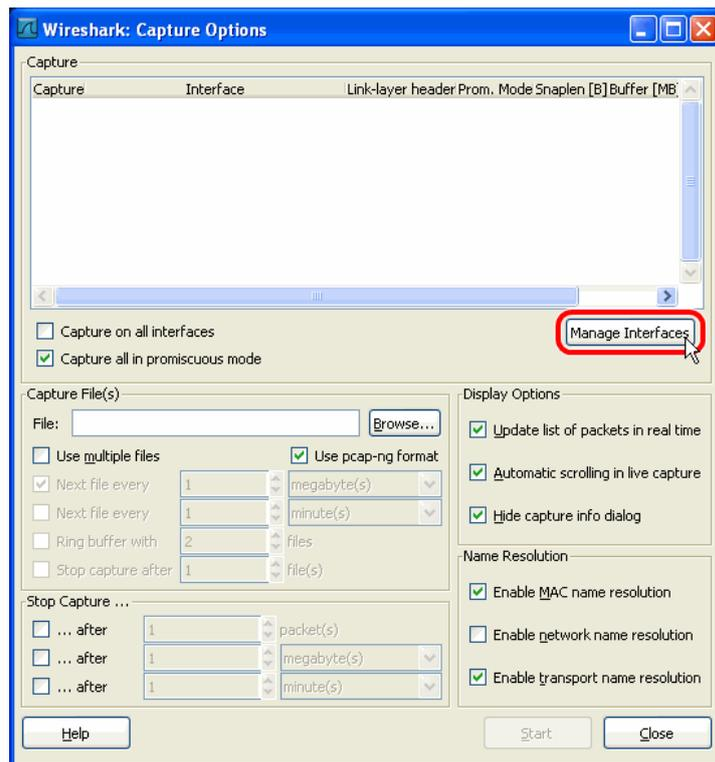

Figure 266: Wireshark Capture Options Dialog.
1. Open Wireshark and choose the menu **Capture → Options...** . This opens the **Capture Options** dialog as shown in Figure 266.